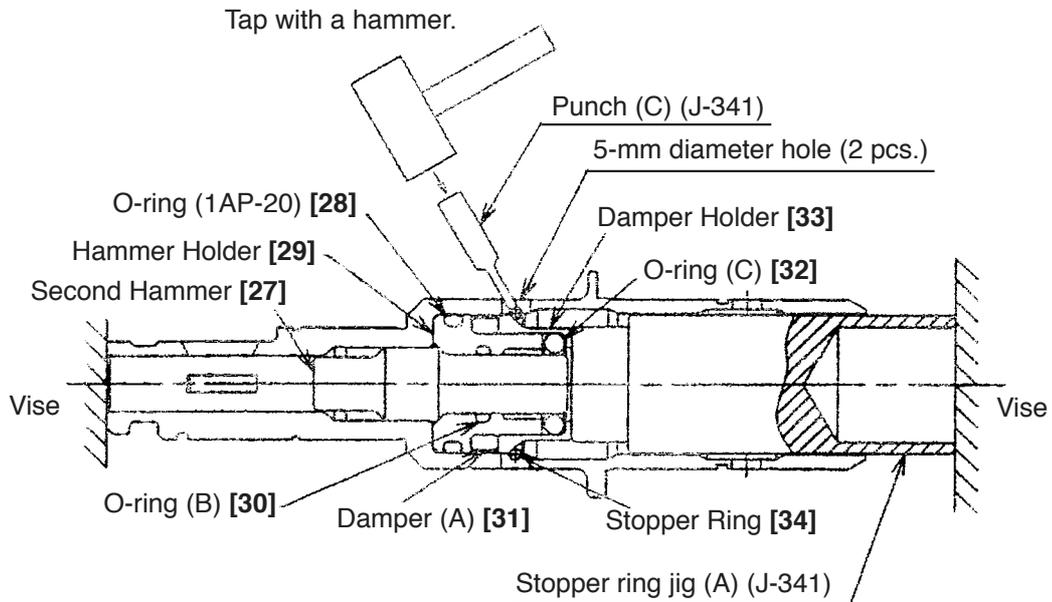

Fig. 12
(4) Disassembly of the cylinder and the second hammer
Remove the Stopper Ring [34] from the inside diameter portion of the Cylinder [22]. Then the Second Hammer [27], O-ring (1AP-20) [28], Hammer Holder [29], O-ring (B) [30], Damper (A) [31], O-ring (C) [32] and Damper Holder [33] can be removed from the Cylinder [22]. As shown in Fig. 12, insert stopper ring jig (A) (J-341) into the no-hole side of the Cylinder [22] until it contacts the end surface of the Damper Holder [33]. Hold the Cylinder [22] and the end surface of stopper ring jig (A) (J-341) with a vise, and compress Damper (A) [31] (it moves a little when the Stopper Ring [34] is pressed with punch (C) (J-341)). Insert punch (C) (J-341) into the 5-mm diameter hole (2 places) in the Cylinder [22] and tap the outside of the Stopper Ring [34] until the Stopper Ring [34] cannot be seen from the 5-mm diameter hole (2 places) to remove the Stopper Ring [34] from the groove of the inside diameter portion of the Cylinder [22]. Then remove the Cylinder [22] from the vise and pull out the Stopper Ring [34] from the inside diameter portion of the Cylinder [22] with ring puller jig (B) (J-341) being careful not to pop out the Stopper Ring [34]. At reassembly, replace the Stopper Ring [34] with new one as the removed Stopper Ring [34] is deformed. To prevent idle hammering, also replace O-ring (C) [32] with new one at reassembly.